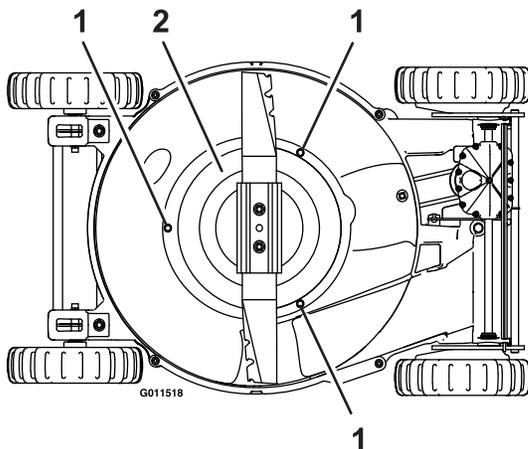

Figure 31
6. Remove the three screws holding the BBC shield onto the machine (see Figure 31).